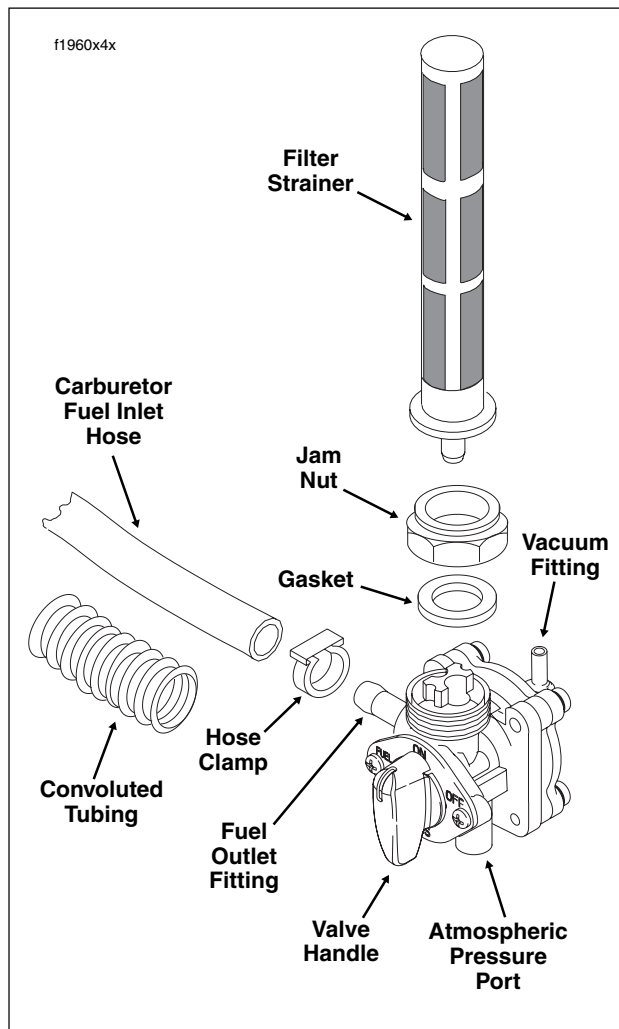

Figure 4-15. Vacuum Operated Fuel Valve
2. Using a side cutters, cut clamp and remove hose from fuel outlet fitting at the front of the fuel valve. See Figure 4-15. Drain free end of hose into a suitable container.